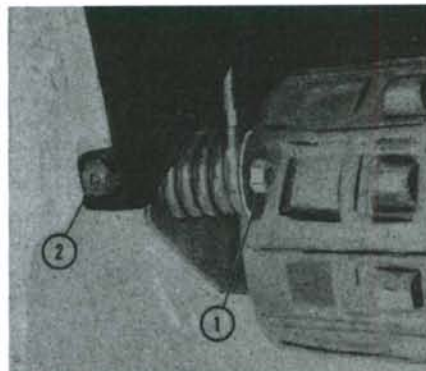

Fig. 6—On 1969-1970 Models Tensioner Clamp Bolt is located in center of suspension spring as shown at (1). Adjusting screw (2) is at rear as shown.
On late models loosen locknuts (1—Fig. 6) in center of suspension springs, then tighten adjusting screws (2) an equal amount. (Four tensioners on Alpine and Invader Models).